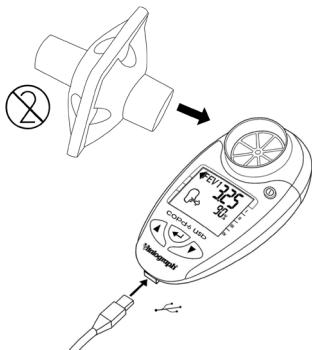

Figure 2. Mouthpiece inserted into flowhead
3. Attach a mouthpiece to the flowhead, see Figure 2.